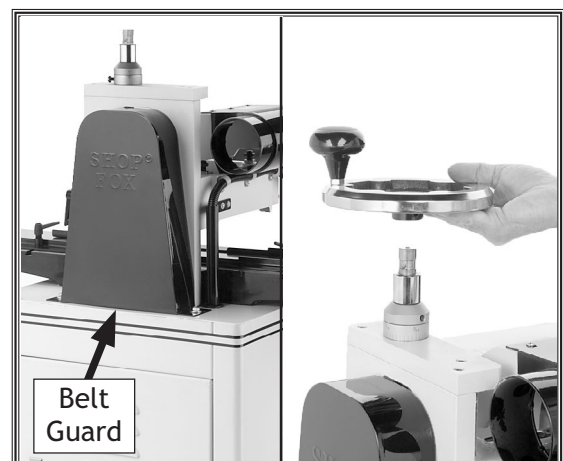

Figure 12. Installing the belt guard and the handwheel.
- Attach the belt guard to the stand (**Figure 12**) with two $\frac{5}{16}$ "-18 x $\frac{3}{4}$ " hex bolts, four $\frac{5}{16}$ " flat washers, and two $\frac{5}{16}$ "-18 hex nuts.
- Slide the handwheel hub over the shaft (**Figure 12**) and tighten the set screw with a 5mm hex wrench.